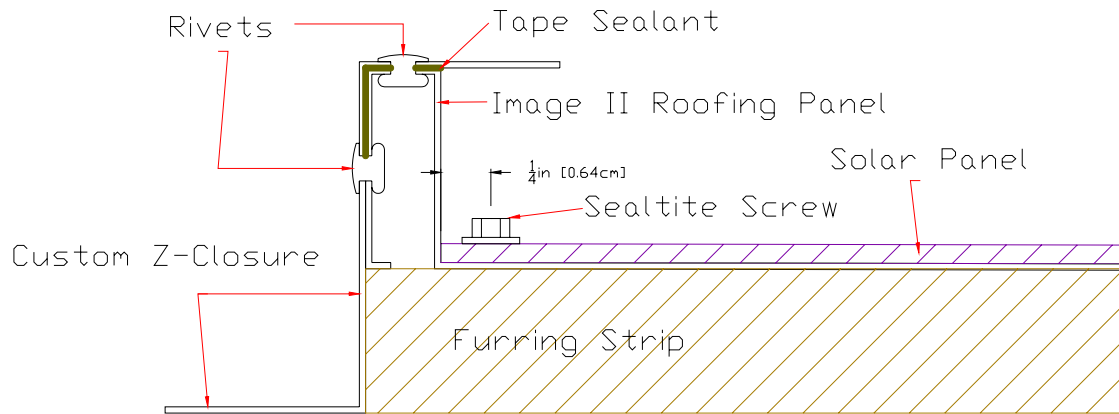

Figure 4.27; Female Leg of Roofing Panel to Custom Z-Closure Rivets
- Step 3: Apply Tape Sealant along the Top Edge of the Roofing Panel. See Figures 4.27 & 4.28 on Page 4-30.
WARNING: You need to drill holds through Custom Z-Closure and the first layer of the Roofing Panel. See Figures 4.27 & 4.28 on Page 4-30. Drilling all the way through the Roofing Panel will create a hole for water.
NOTE: In Figure 4.27, there is a rivet in to top of the Custom Z-Closure through the Female Leg of the Roofing Panel. The manufacture has told me that rivets can be installed in top of both the Female and Male Legs. I question whether a rivet could go through the Male Leg without problems!
- Step 13: Install three rivets in the bent section of the second closure. These rivets will go through both Custom Z-Closures and ONE layer of the Roofing Panel; see Figures 4.27 & 4.28 of Page 4-30.